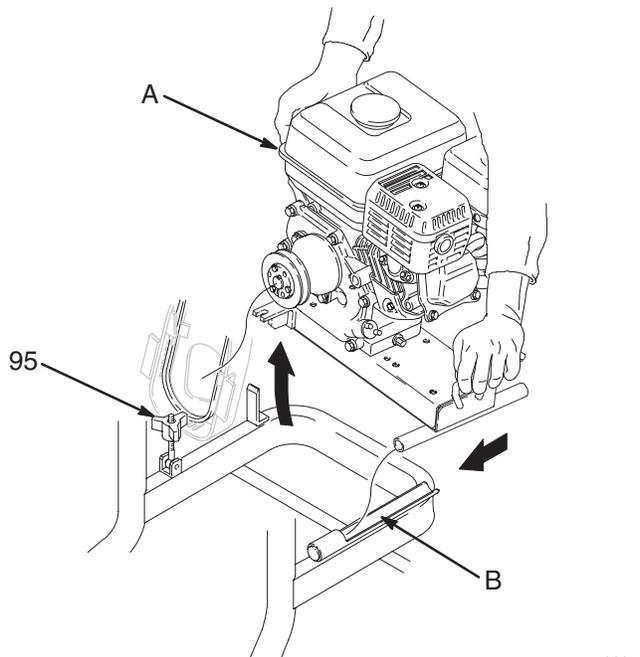

Fig. 14
1. Remove the engine. Loosen the knob (95). Grasp the engine as shown in Fig. 14 and raise side A. Slide the engine out of the channel (B).